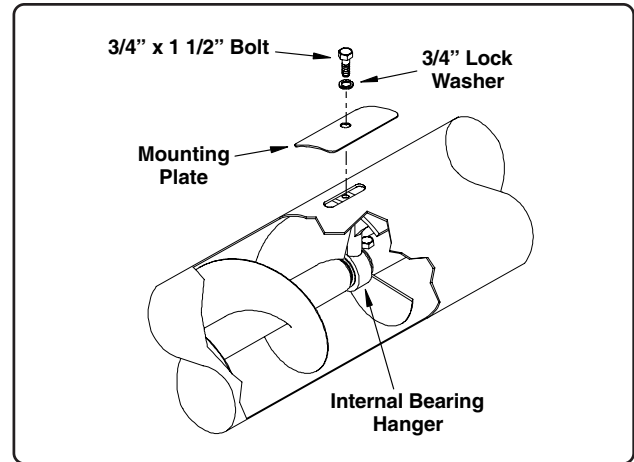

Fig. 46
5. Secure the bearing hanger using one mounting plate and one 5/8" x 1 1/2" bolt and lock washer (See Fig. 46). Repeat these steps for all remaining flights and bearing hangers.